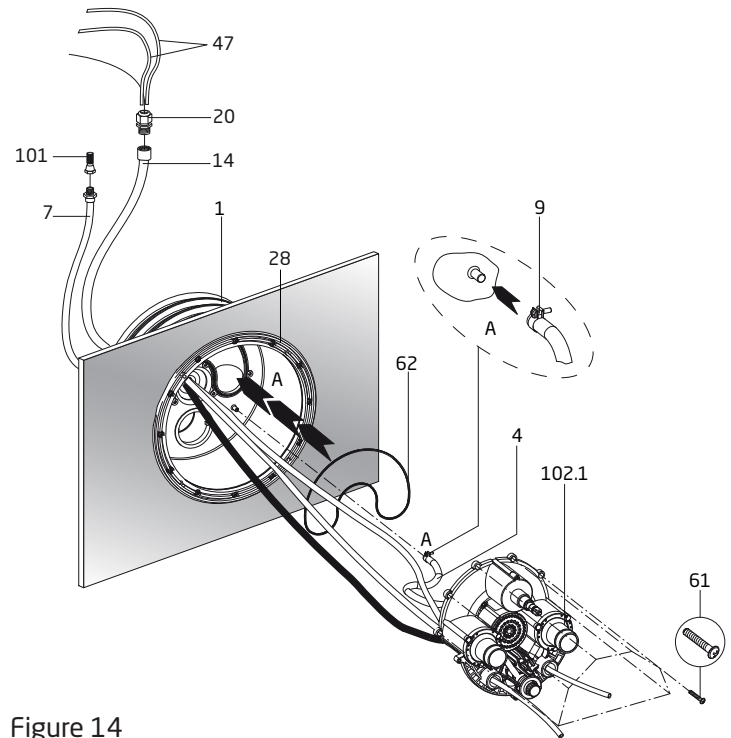

Figure 14
1. Insert the o-ring (part# 62) in the jet housing as shown in Figure 14.
2. Start the ten (10) nozzle housing tapping screws (part# 61) into the pre-assembled nozzle housing (part# 102.1). Place the nozzle housing at the main jet housing.
4. Slide one (1) o-ring (part# 37) onto each push button. Insert the two (2) push buttons into the nozzle housing and lock them by turning them clockwise until they 'click' into place.
5. Feed cables for both push buttons and LED light through the protective conduit as shown in Figure 14. Allow enough cable to reach the control box. Excess can be trimmed upon installation. Mark the end of each button cable with a marker. (P = Pump & L = Light.)